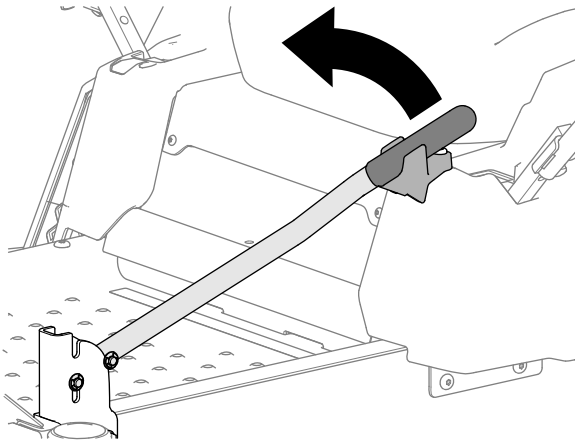

Figure 8
1. Rotate the assist handle as shown in Figure 8.